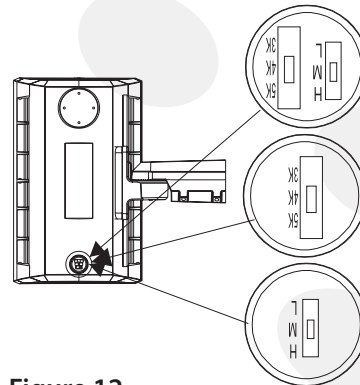

Figure 12
Step 2: After adjusting the required control function, tighten the metal plug clockwise (Figure 12).